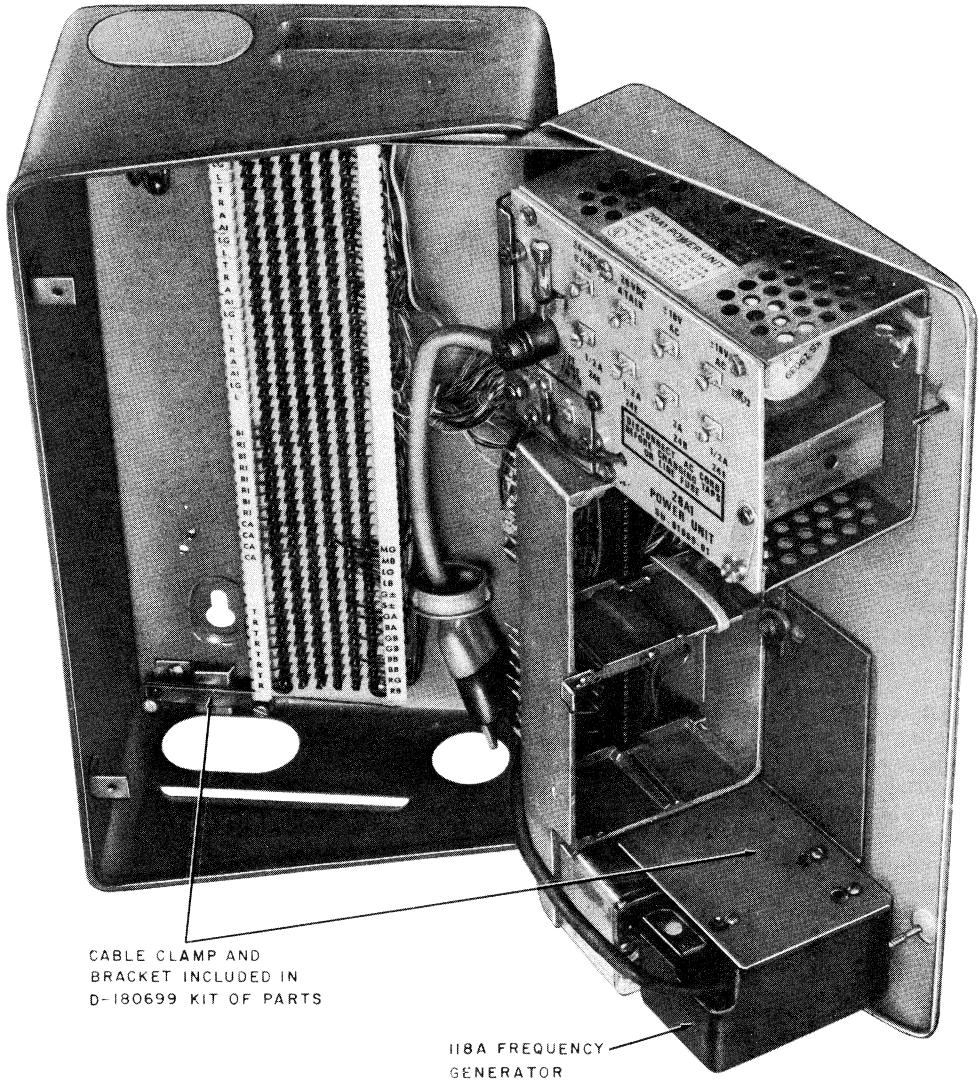

Fig. 2—551B KSU (MD) With 118A Frequency Generator Installed
- (b) To mount a 118A frequency generator on a 550/551B KСУ, first install D-180699 Kit of Parts. Remove the cable clamp provided with the KСУ and replace it with the one in the kit. Mount the bracket on the door of the KСУ as shown in Fig. 2. Attach the frequency generator to the bracket with the three screws supplied with the generator. Connect the feed-through type plug to the external ac power cord and, if the KСУ is a 551B, to the power unit cord [see paragraph 3.03(b) for instructions on positioning the grommet].